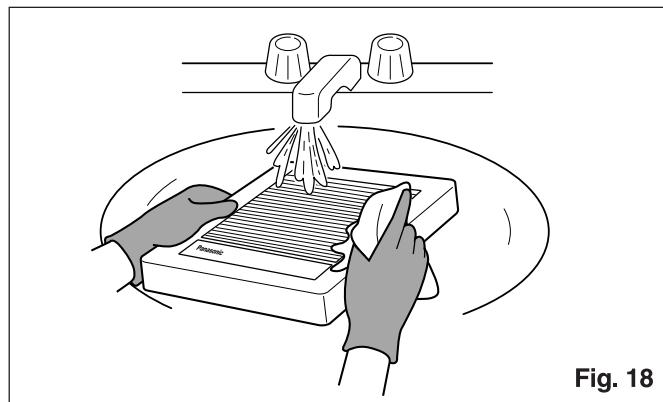

Fig. 18
2. Wash and clean the grille (Use non-abrasive kitchen detergent). Wipe it dry with a clean cloth. (Fig. 18)